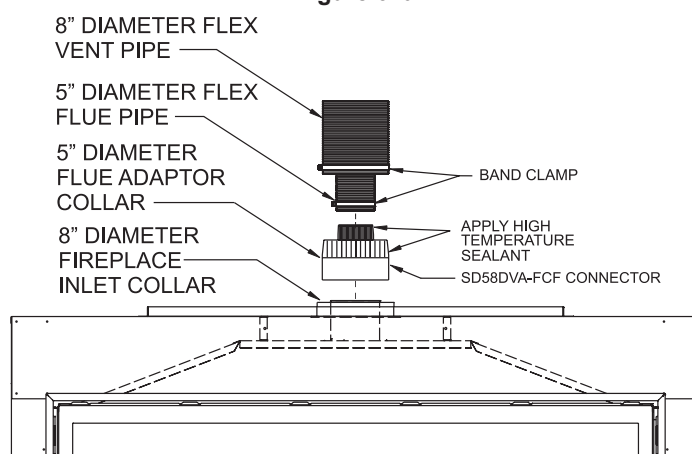

Figure 62b
NOTE: For installation of Flex Venting on Fireplaces that have Flue and Inlet Vent collars flush with top of the fireplace, it is recommended that an SD58DVA-FCF Connector be used. When using the SD58DVA-FCF Flex Vent Connector, it will require removing (or cutting off) the 5" diameter adapter from the DVVK5F Flex Flue. See Step 10b and Figure 62b.
NOTE: For installation of Flex Venting on Fireplaces that have Flue and Inlet Vent collars flush with top of the fireplace, it is recommended that an SD58DVA-FCF Connector be used. When using the SD58DVA-FCF Flex Vent Connector, it will require removing (or cutting off) the 5" diameter adapter from the DVVK5F Flex Flue. **See Step 10b and Figure 62b.**
- 10a.** Apply sealant to the outside of the flue pipe adapter and connect to the flex flue pipe. Then insert the adapter into the fireplace flue. Secure the flue adapter to the fireplace flue with a minimum of two screws provided. **See Figure 62b.**
- 10b.** If using the SD58DVA-FCF Vent Connector, apply sealant to the inside of the 5" diameter flex flue pipe, then connect the flex flue to the 5" flue takeoff on the SD58DVA-FCF Connector. Use a 5" diameter band clamp and a minimum of two screws to secure the flex flue to the SD58DVA-FCF Connector. **See Figure 62b.**